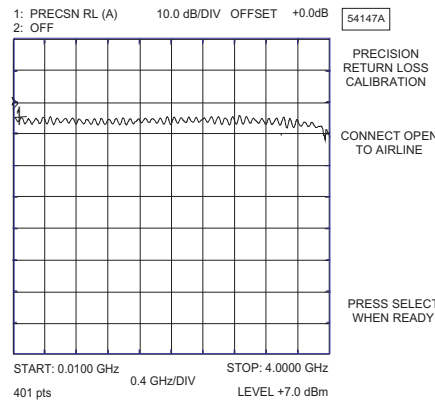

Figure 6. Example of a Good Connection
17. Verify that the display resembles that shown in Figure 6.